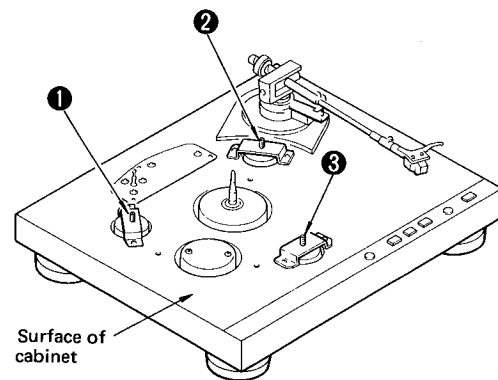

Fig. 1
- Adjust so that the space between platter and surface of cabinet is 4 mm ± 0.2 mm by turning screws ① to ③ in Fig. 1. (Turning these screws clockwise moves the platter down and turning them counterclockwise moves it up.)